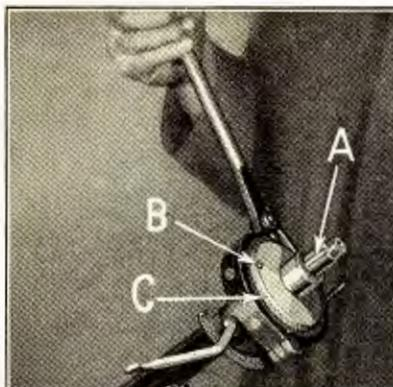

Fig. 387
- 748 Remove steering gear drive pinion key (See "A" Fig. 387) by tapping it out of keyway in shaft with a small hammer and drift.
770 Pack internal gear case with grease and install steering gear cover on case, drawing the cover down tightly on internal gear case with a babbitt lined wrench. Run down the steering gear cover screw through cover and into case (See Fig. 387).